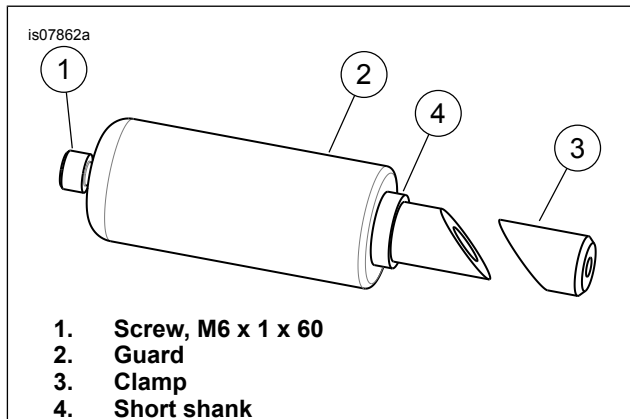
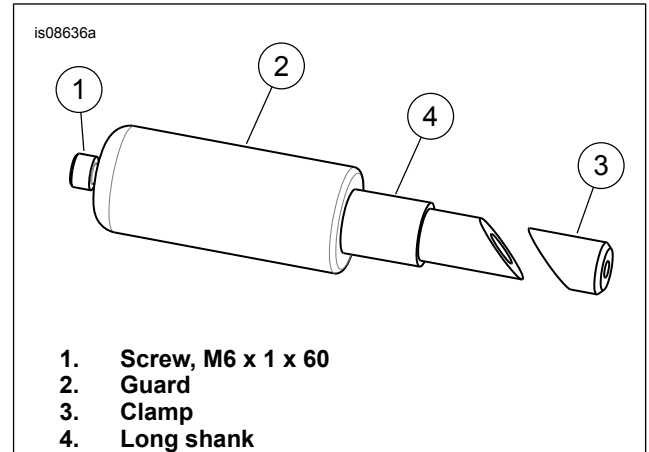

Figure 1. Handlebar Guard Kit, left, short shank
Figure 2. Handlebar Guard Kit, right, long shank
See Figure 1 and Figure 2. Each handlebar guard is available as service kit (Part No. 49000119 (left side), Part No. 49000120 (right side)).
- a. **Left grip uses short shank:** See Figure 1. Apply a small amount Loctite 243 (blue) to screw (1). Insert screw through guard (2) and start in the clamp (3).
- b. **Right grip uses long shank:** See Figure 2. Apply a small amount Loctite 243 (blue) to screw (1). Insert screw through guard (2) and start in the clamp (3).